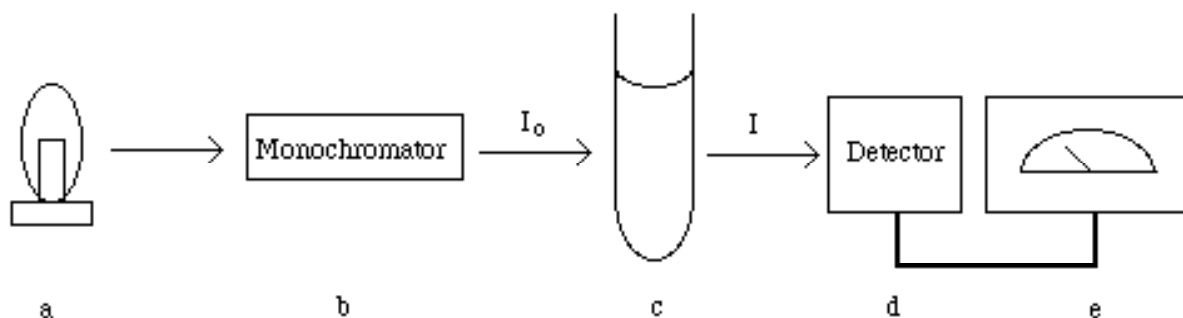

Figure 1. A schematic representation of a spectrophotometer.
In this experiment you will be performing a spectroscopic analysis. You will be using the GENESYS™ 20 to find the concentration of an unknown potassium permanganate solution. A question you should be asking is, how does this work? How can light be used to determine the concentration of a solution? Simply put, when you pass light through a sample, a certain amount of light is absorbed by the molecules in solution and the rest passes through. In fact, materials have specific color due to certain wavelengths or colors of the visible spectrum that are being absorbed by the molecules in the material. The color you attribute to the material is actually all the remaining reflected light. If we measure the amount of light that is going into the sample and we measure the amount of light that comes out, we can determine to what extent the sample is absorbing the light. In this experiment you will carefully analyze the concentration of a KMnO_4 solution. To do this you will use a spectrophotometer, an instrument which measures the fraction of light (I/I_0) that is absorbed by a sample. The sample is placed in a tube called a cuvette and is then irradiated with an incident beam of light (I_0) of a specific wavelength. A detector then measures the amount of light that is transmitted through the sample (I). A schematic representation of a spectrophotometer is shown below in Figure 1.